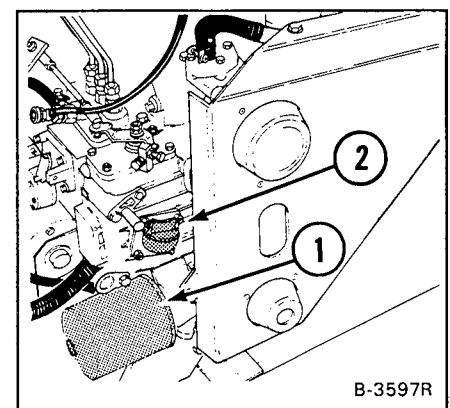

Fig. 61 Engine Oil Filter
3. Remove the oil filter (Fig. 61, Item 1).